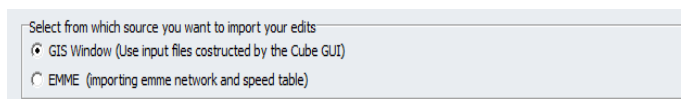

Figure 66 Catalogue keys to edit after import of Emme network
- 8) Change "Select from which interface you want to import your edits:" to "GIS Window (Use input files constructed by the Cube GUI)" (Use input files constructed by the Cube GUI)" (as seen in Figure 66).